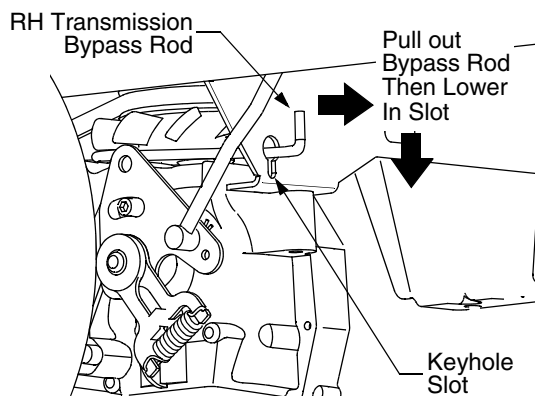

Figure 30
- From just in front of the two rear tires, locate the transmission bypass rods. See Figure 30.